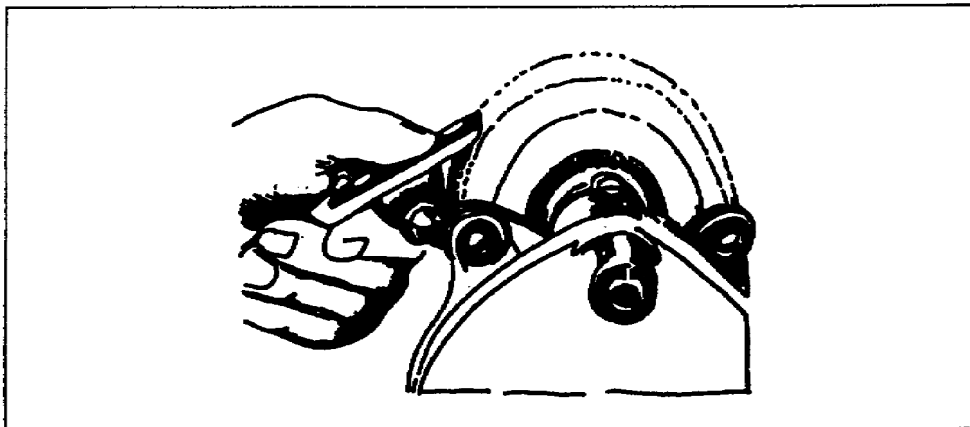

Figure 2-23. Restoring a bevel chisel cutting edge
(4) Restoring the Bevel. To restore the bevel, readjust the grinder tool rest to a position that will give the chisel the correct bevel (usually 30 degrees). Hold the bevel lightly against the wheel (Figure 2-23) and grind with the same side-to-side motion used in squaring the cutting edge. To avoid loss of temper, cool the chisel by dipping it in water during the sharpening process.